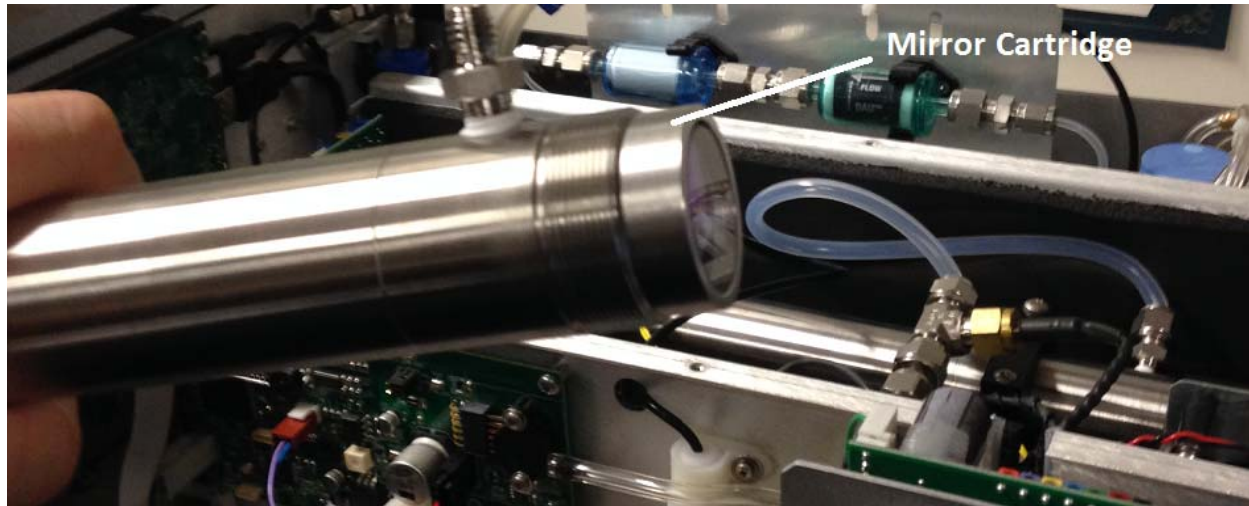

Figure 6
6. Once the black section is removed, you can now see and access the mirror assembly as shown in Figure 6.